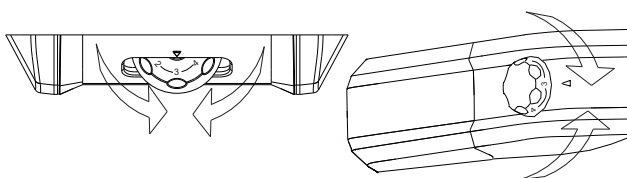

Fig.5
•The temperature adjustment of both compartments is effected by rotating the thermostat knob (fig. 5).